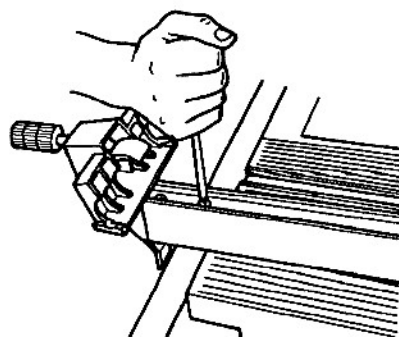

Fig. C-8
14. Remove the rip fence and turn it upside down on the table. Use a medium Phillips screwdriver to tighten the two screws near the base, as seen in Fig. C-8. Once they are tight, loosen them only enough to allow movement with firm pressure.